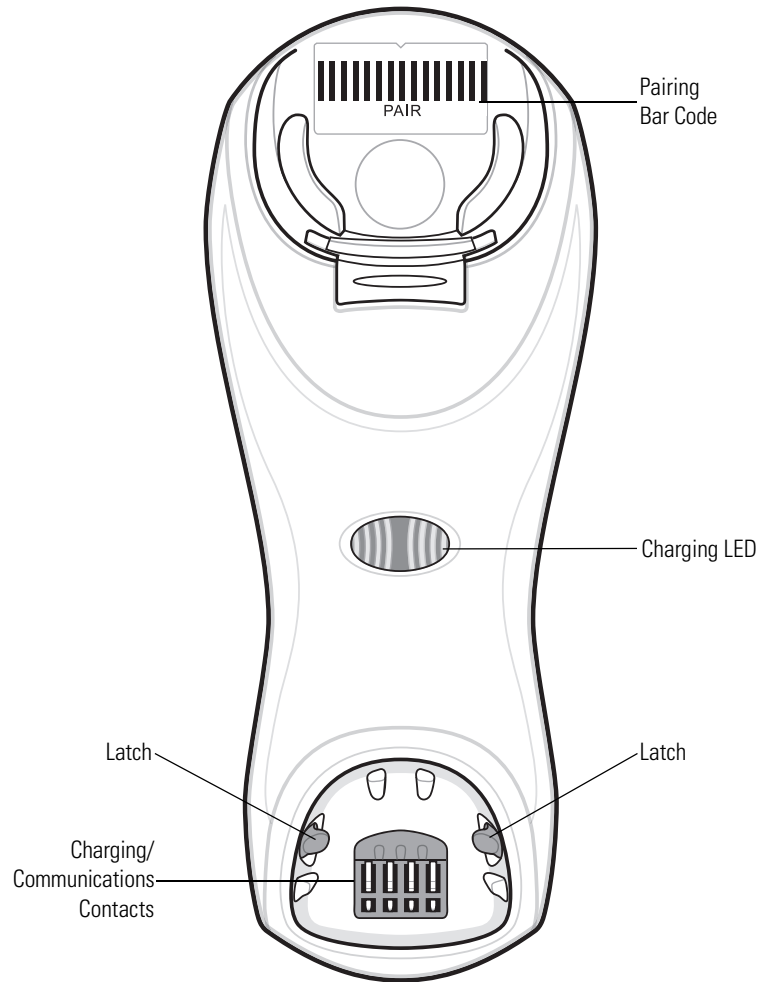

Figure 1-3. Cradle Front View
2. Ensure the convertible mount hook on the front of the cradle is inserted with the hook facing up. If not, remove and reverse the hook so that it is in position to secure the scanner in place. (See Figure 1-3 on page 1-6 for the location of the convertible mount hook.)